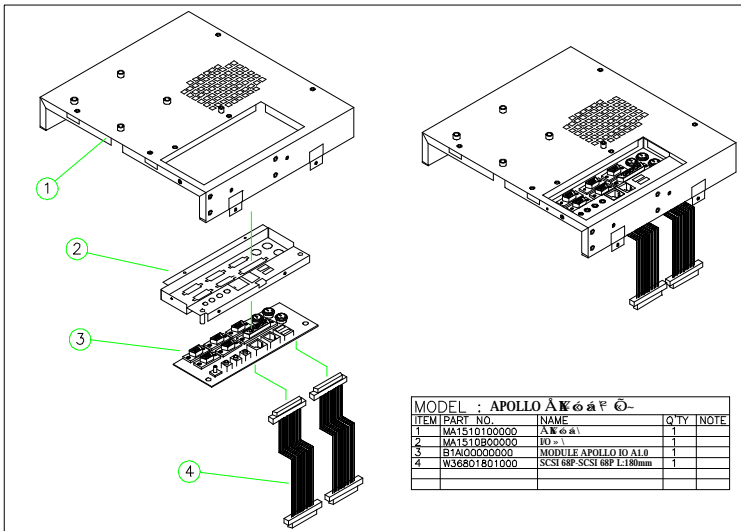

FIGURE 5-12: APOLLO BACK MODULE ASSEMBLY
2. Insert the I/O board to the I/O bracket (2) and fix them together with the 12 bronze sticks. Fix them again with 2 screws on the other side.
3. Fix the complete I/O module to the metal back panel (1) five FMS 3*5 screws.
4. Connect one end of the 2 68-pin SCSI cables (Fig. 5-12 (4)) to the I/O board (3). Via the 2 SCSI cables, all the onboard I/O signals are converted to the I/O board for device cable connection.